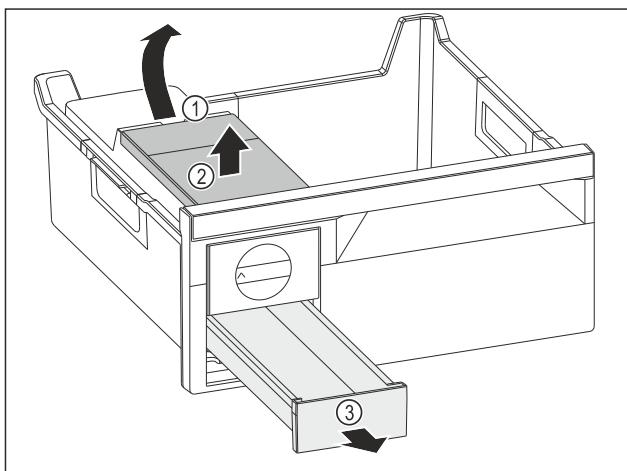

Fig. 164
► Removing the water tank: Lift the water tank at the recess Fig. 164 (1).
► Remove the water tank Fig. 164 (2) upwards.
► Remove the ice cube tray Fig. 164 (3) from the front.